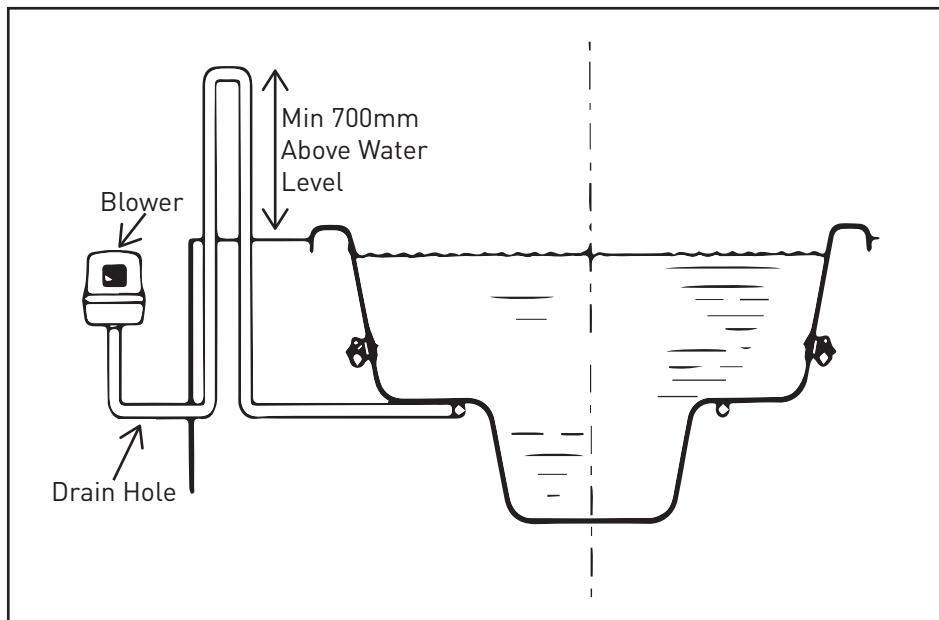

Figure 2
4. If the blower is to be installed below the water level or further than 5 meters from the pool/spa a loop must be installed at least 700mm above the highest water level (see Figure 2). This loop should be installed within two meters of the pool/spa. Drill a bleed hole after loop to remove any condensation (refer Figure 2).